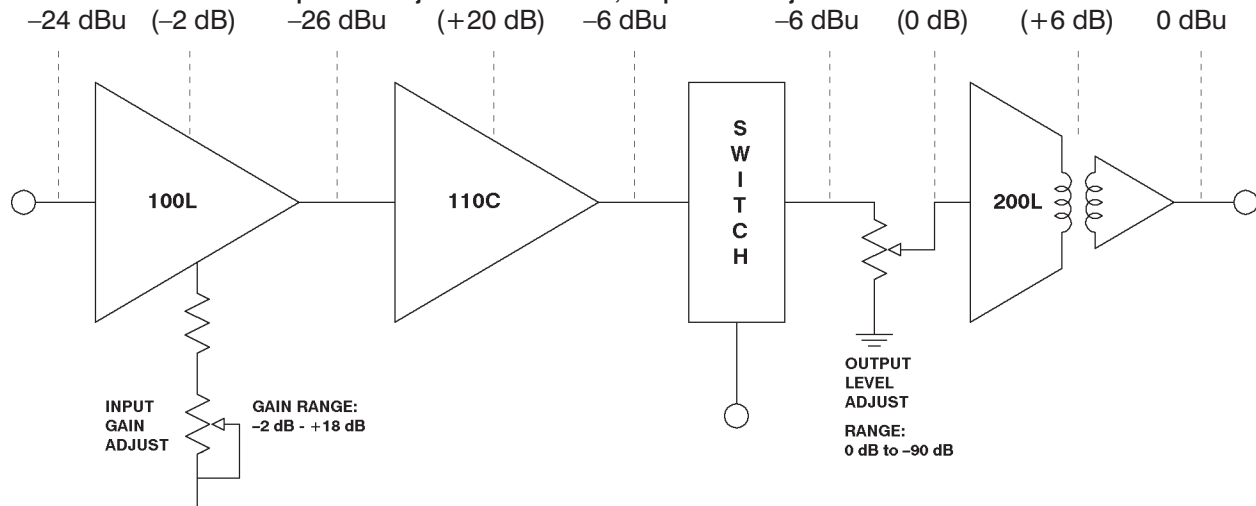

Figure 2 - Gain Structure
1. Locate a proper slot in the mainframe. Mainframe slots are set up on the rear panel of the mother board according to the card type to be used. Slots are dedicated by installing the proper trimpots. Trimpots **MUST** be installed as indicated in Figure 2 and 3 for inputs and outputs to function. Microphone level inputs require 200 Ω trimpots. All others require 10 k Ω trimpots. Slots labels are applied at the factory above each slot position. Single input cards such as the 5101CS, 5101CS-8, 5151CS, and the are labeled 'SPECIAL', as are any specially made cards. With the exception of the SPECIALs, cards may be inserted in any slot with a matching label.
The gain structure diagrams in Figures 2 - 3 show the signal levels and gains or losses at key points in the cards. Since all outputs on a card behave identically, only one output is shown in the diagrams. In the examples the Input Gain Adjust pots were set for minimum gain (fully counterclockwise), and the Output Level Adjust pots at maximum output (fully counterclockwise). The levels and gains shown are those required to produce an output level of 0 dBu.